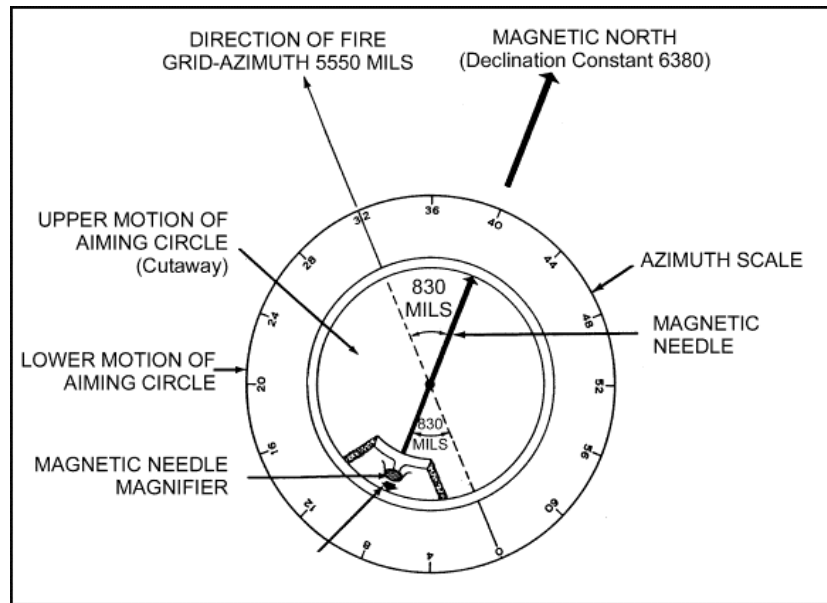

Figure 2-8. Aiming circle oriented in desired direction of fire.
- d. Release the compass needle. Look through the window in the cover housing and rotate the instrument until the needle floats freely using the orienting knob throw-out mechanism. For fine adjustments, use orienting knobs until the magnetic needle is exactly centered on the etched marks on the magnifier. Relock the compass needle to orient the 0-3200 line of the aiming circle on the mounting azimuth; in this case, grid azimuth of 5550 mils (Figure 2-8).